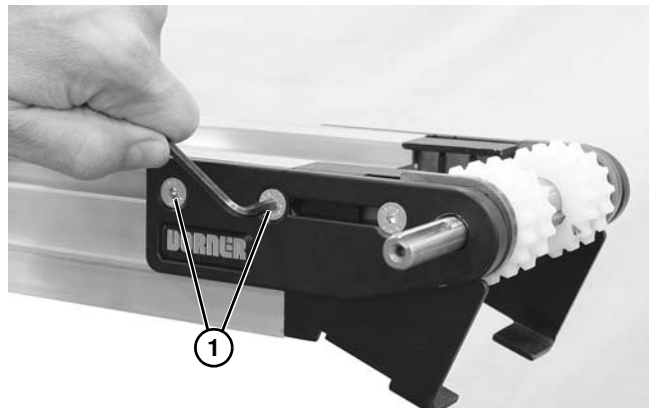

Figure 43
4. Loosen two fastening screws (**Figure 43, item 1**) on both sides of conveyor.